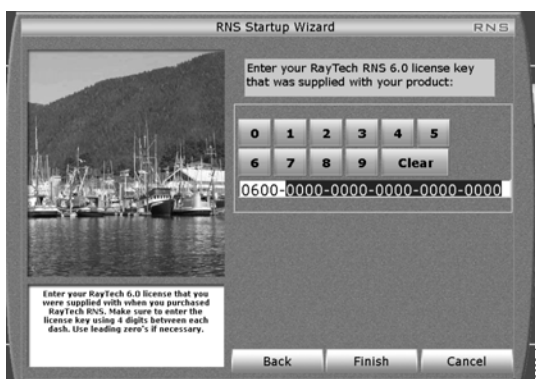

Figure 3-2: RayTech Startup Wizard on-screen keyboard
3. Click *Next*. The on-screen keyboard appears. See *Figure 3-2 on page 16*. For details of license key types refer to "License keys" on page 16.